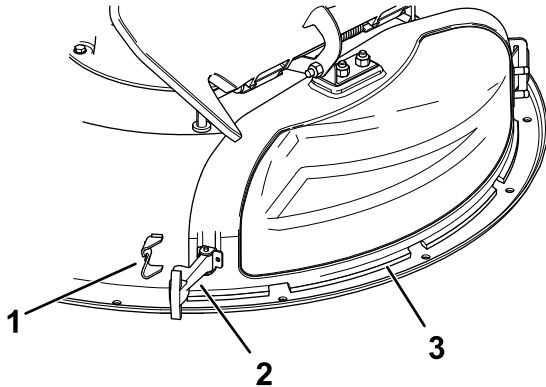

Figure 11
3. Release the flexible latch from the latch retainer on the discharge cover and pivot the discharge cover to the right (**Figure 11**).
6. Secure the discharge cover to the deck by hooking the flexible latch on the discharge cover into the retainer on the deck (Figure 11).